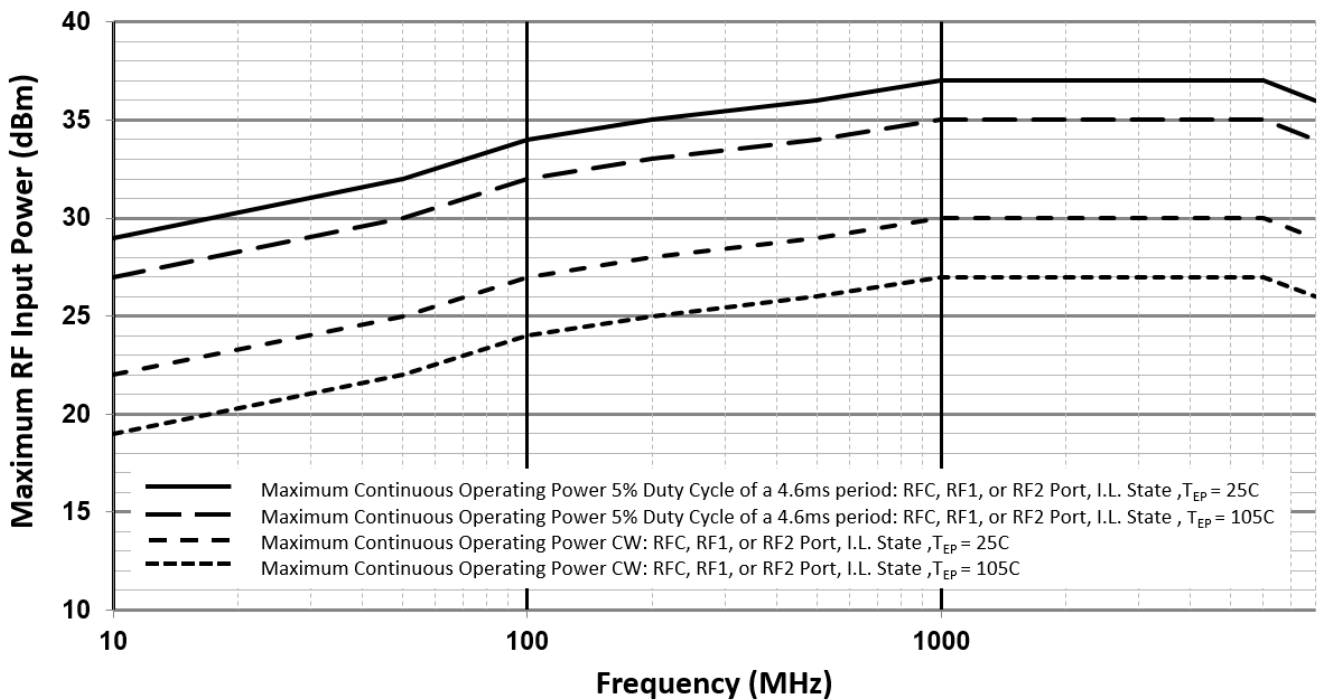

Figure 3. Maximum RF Input Operating Power vs. RF Frequency ($Z_S = Z_L = 50\Omega$)
| RF Input Power ^[2] | P_{RF_CW} | CW, insertion loss state | See Figure 3 | | | dBm |
| | P_{RF_PULSE} | 5% duty cycle of 4.6ms period, insertion loss state | See Figure 3 | | | |
2. Levels based on: $V_{CC} = 2.7V$ to $5.5V$, $100MHz \leq f_{RF} \leq 8GHz$, $Z_S = Z_L = 50\Omega$. See Figure 3 for power handling derating vs. RF frequency.
- The input 1dB compression point is a linearity figure of merit. Refer to the Absolute Maximum Ratings section and Figure 3 for the maximum RF input power.